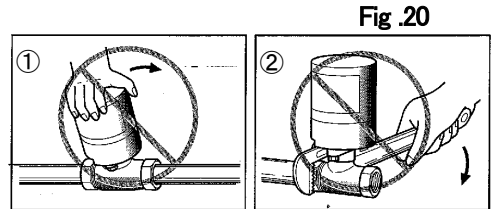

Fig. 20
- **Do not** apply an excessive load by hand to adjust mounting orientation of an actuated valve, or **do not** tighten a valve with a wrench, to eliminate a risk of damaging the valve (Fig.20).